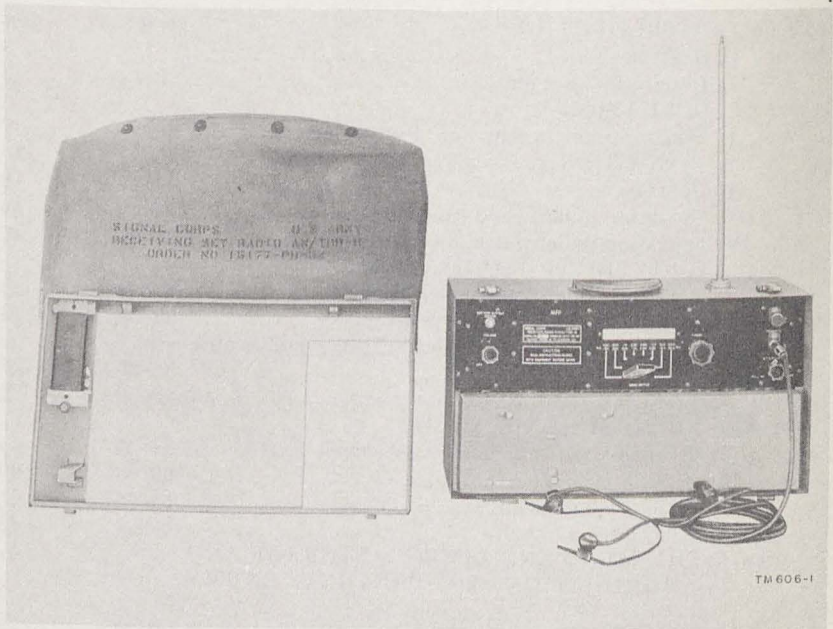

Figure 1. Radio Receiving Set AN/TRR-8.
a. This manual contains instructions for the installation, operation, maintenance, and repair of Radio Receiving Set AN/TRR-8 (fig. 1). This information is intended for operators, organizational maintenance repairmen, and field maintenance repairmen.
a. Radio Receiving Set AN/TRR-8 (fig. 1) is a wide-range, highly sensitive, portable radio set. Its light weight and extensive frequency coverage make it suitable for the interception of enemy com-